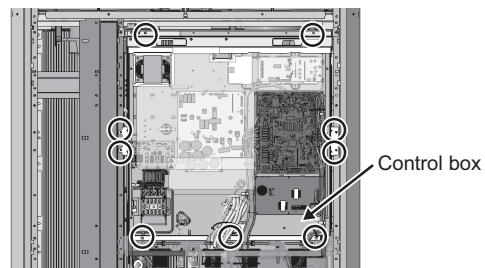

Fig. 31
- (3) Remove the control box. (Nine screws: Fig. 31)